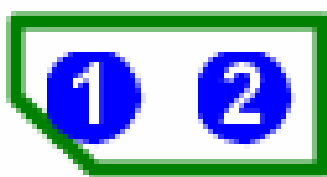

Figure 12: Typical Jumper Pad Numbering Scheme (removable jumpers)
The phyCORE-BF537 Carrier Board comes preconfigured with 52 removable jumpers (JP). The jumpers allow the user flexibility of rerouting a limited amount of signals for development constraint purposes. Table 28 below lists the 52 removable jumpers, their default positions, and their functions in each position. Figure 12 depicts the jumper pad numbering scheme for reference when altering jumper settings on the development board.
This section describes the functional components of the phyCORE-BF537 Carrier Board supported by the phyCORE-BF537 and appropriate jumper settings to activate these components. Depending on the specific phyCORE-BF537 module configuration, alternative jumper settings can be used. Each functional subsection shows a view of the Carrier Board with the connectors, components, and configuration jumpers emphasized for easy location. All jumpers have pin 1 located at the clipped corner of the jumper outline. Figure 12 in section 15.2 provides an illustration of the jumper numbering scheme.